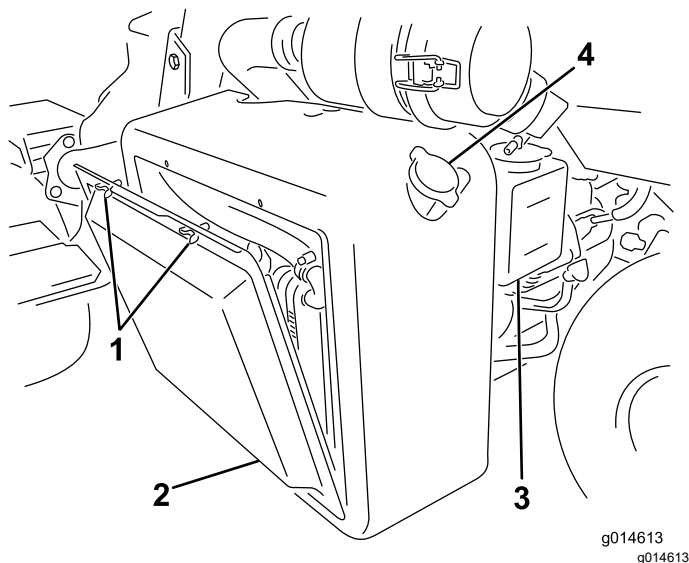
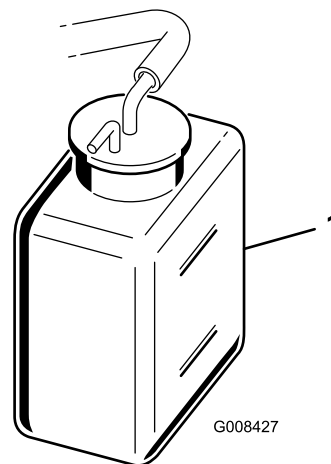

Figure 40
Figure 41
1. Remove the radiator screen (Figure 40).
2. Check the coolant level (Figure 40 and Figure 41).